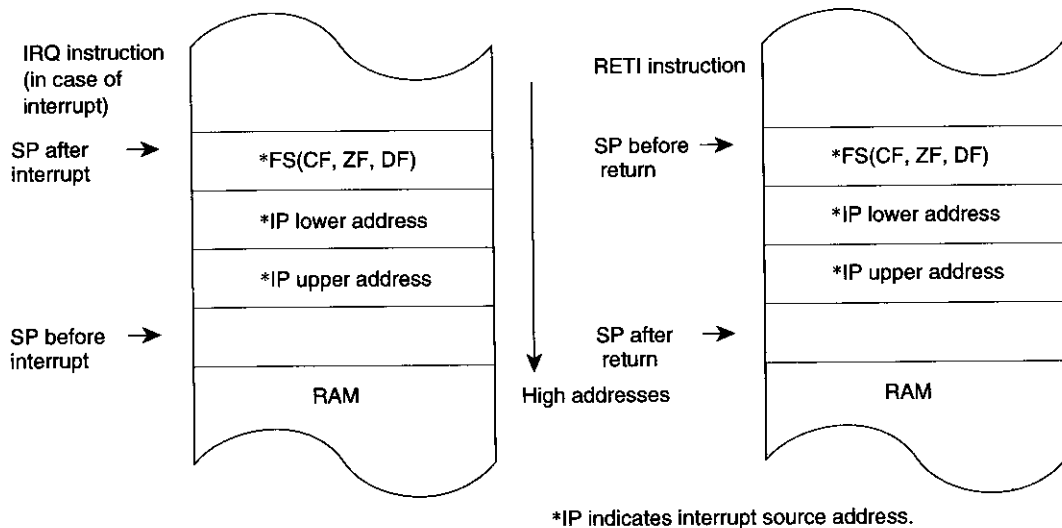

Figure 2-8-4 Stack Pointer (SP) Operation in Case of Interrupt
The RETI instruction operates in a similar way to the RET instruction (Return) used to return from a subroutine to the main routine. [  Figure 2-8-4 ]
With a normal interrupt, the instruction pointer (IP) and flag status byte (FS) are pushed, and therefore a 3-byte stack area is needed. Consequently, the stack pointer (SP) value is incremented by 3 on return from the interrupt. [  Figure 2-8-4 ]